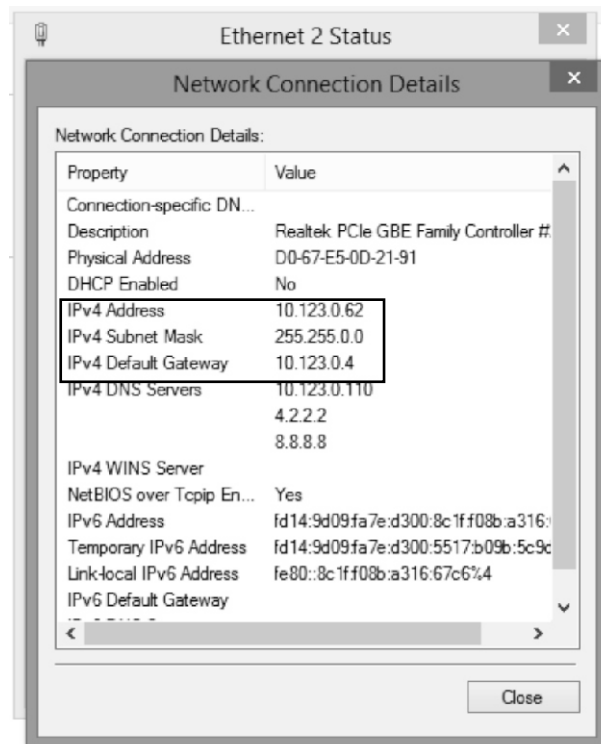

Figure 5.1: IPV4 Address of PC/ Laptop
- Click Details. (See Figure 5.1)